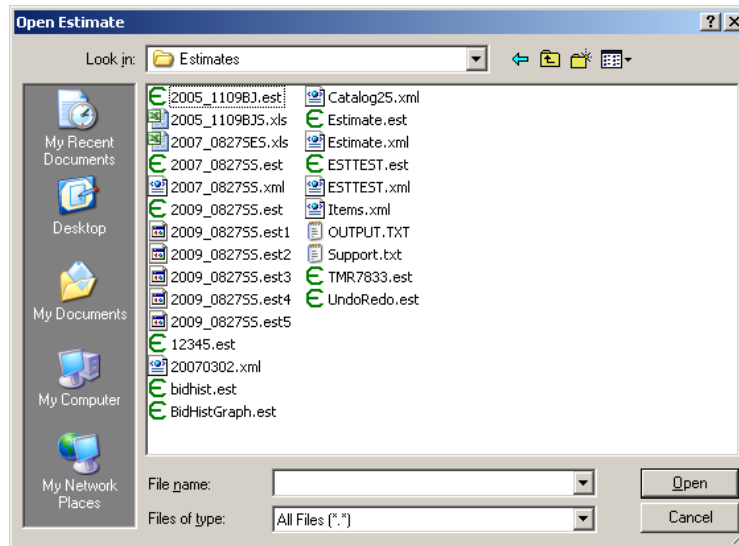

Figure 5-1. Open Estimate Window With All Files Showing
- Note:** Depending on how many times you saved Estimate 2009_0827SS, your archived estimates may look different than the one in Figure 5-1.